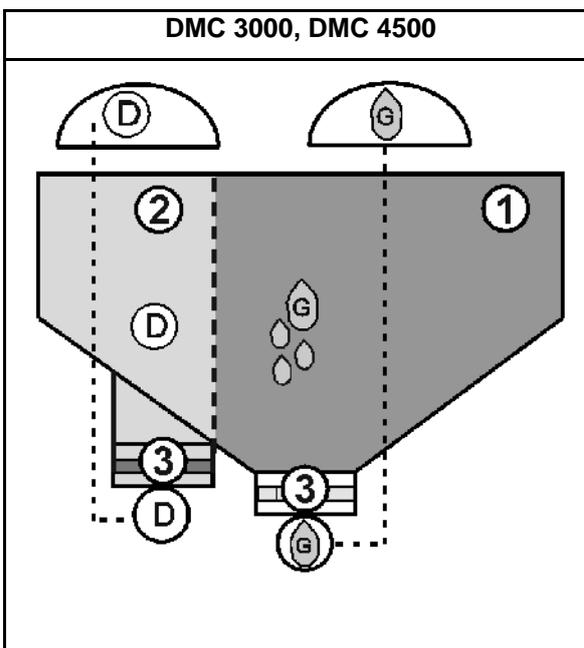
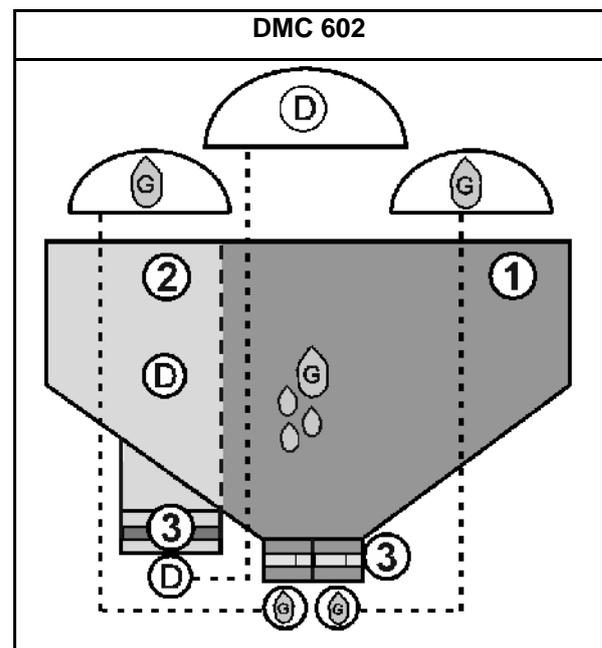

Fig. 28
Fig. 29
- Equip the metering unit (Fig. 28/3, Fig. 29/3) with a metering roller for fertiliser.